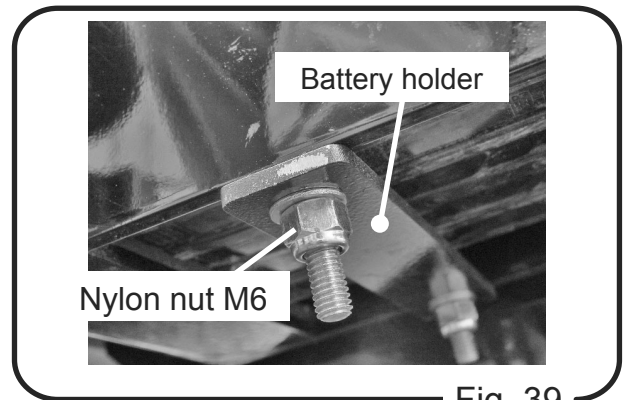

Fig. 39
3. How to remove battery (Fig. 38, Fig. 39)